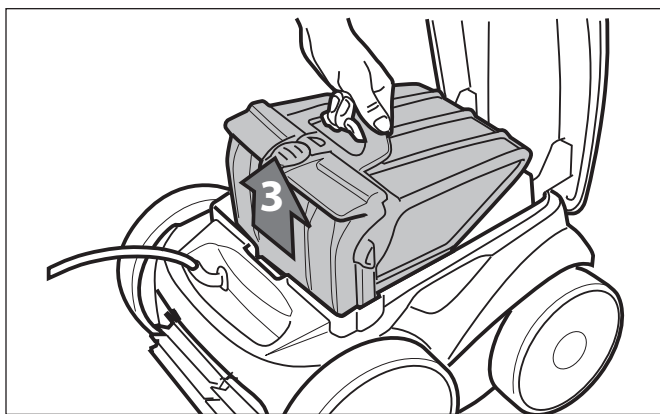

Figure 25. Remove Filter Assembly
6. Remove the filter assembly from the body (3), as shown in Figure 25.